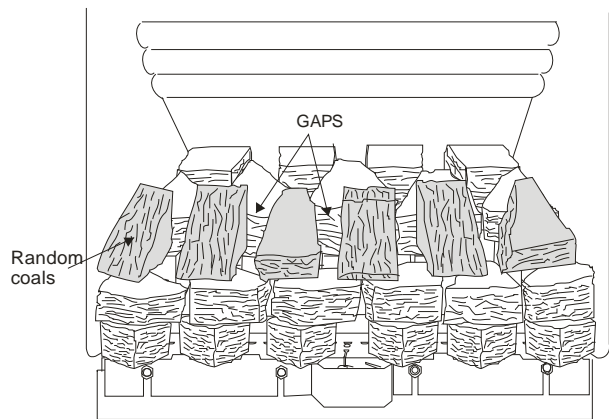

Figure 27
8. The next step is to place further 6 **Random Coals** in such a way that they are bridging between the front coals and the coals placed in step 1. Leave gaps between coals. Ensure that none of the coals fall onto the burner. See **Figure 27** for the layout.